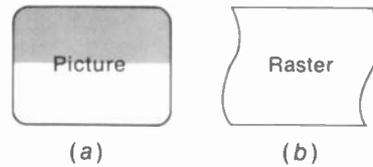

FIGURE 12-31 EFFECTS OF HUM. (a) 60-Hz HUM BARS IN PICTURE. (b) 60-Hz HUM BEND IN RASTER.
*Hum* is excessive ac ripple in the dc output of the low-voltage power supply. The cause is poor filtering, usually as a result of open filter capacitors. The ripple frequency is 60 Hz in a half-wave rectifier or 120 Hz in a full-wave circuit. In the sound, the ac ripple produces hum. On the screen of the picture tube, the hum can cause horizontal black-and-white *hum bars* or bend at the sides. See Fig. 12-31. Typical hum troubles are summarized in Table 12-2.